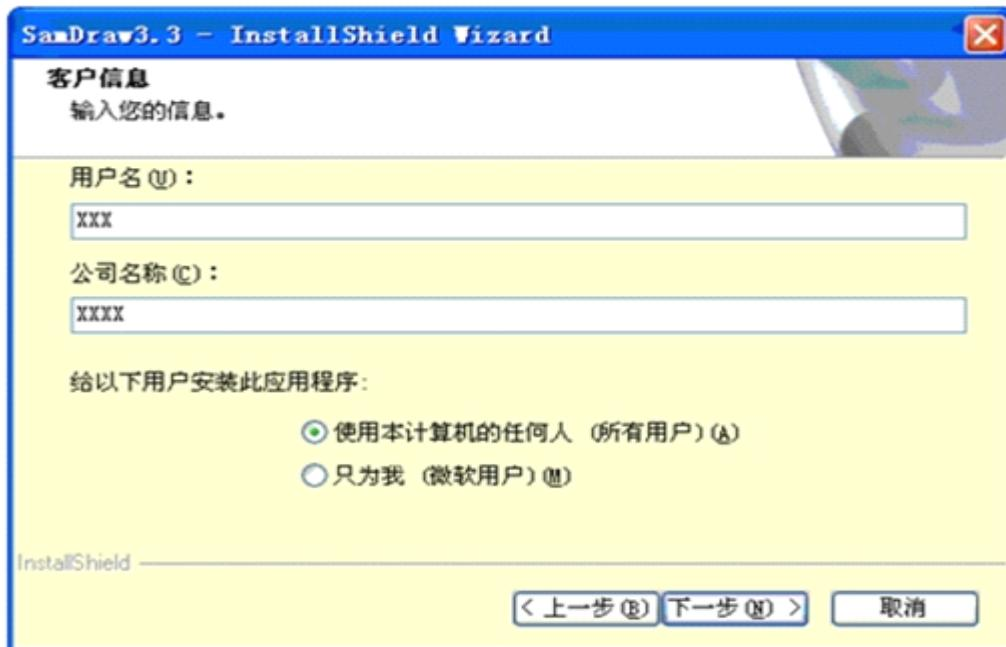

Figure 2-5: User information page
- Users can fill in their own personal or company information, or choose the default setting, and then click “next”. See Figure 2-5.